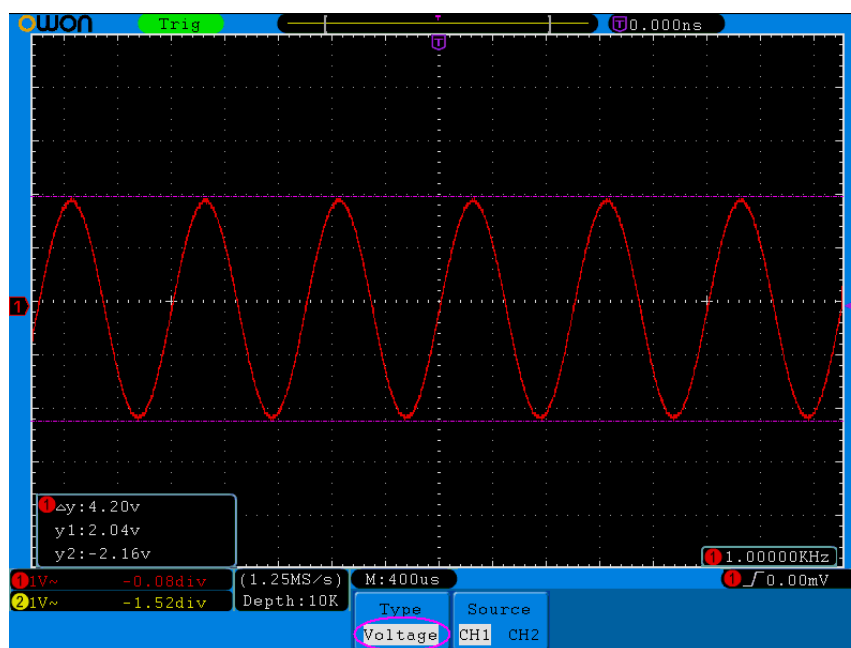

Figure 5-53 Waveform of Voltage Cursor Measurement
4. According to the measured waveform, adjust the positions of Cursor1 and Cursor2 by turning the **VERTICAL POSITION** knob of CH1 and CH2. Cursor increment window at the left bottom of waveform shows absolute value of D-value of cursor 1 and cursor 2 and the present position of the two cursors. (See *Figure 5-53*).